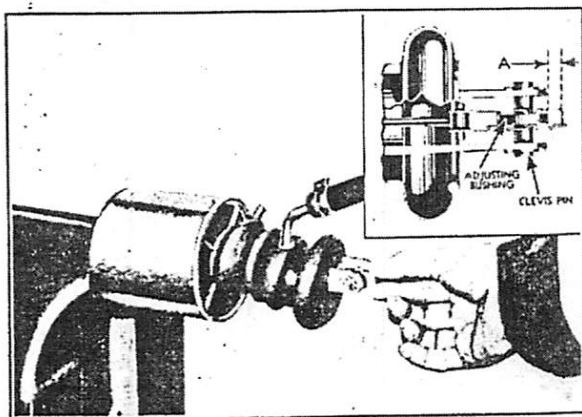

Fig. 27—Valve Links Away from the Cylinder
4. With the engine running to provide a source of vacuum, move the valve link away from the cylinder until all clearance between the special adjusting bushing and the valve link is toward the front of the car as shown at "A" in Fig. 27. In this position the piston rod should move slowly outward.